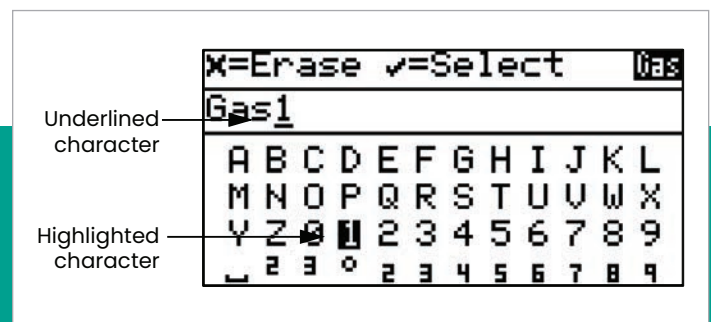

Figure 44: Alphanumeric menu with keyboard highlighted
- Pressing the *down* arrow will move the highlight to the *keyboard* section (see Figure 44 below):